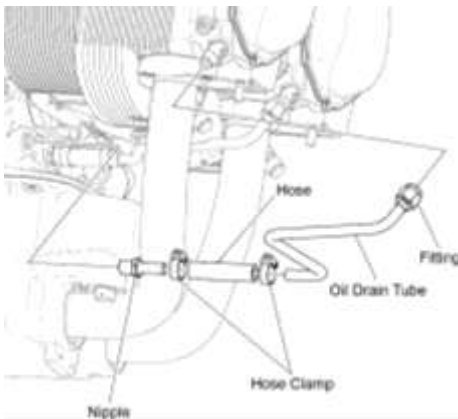

Figure 46
- (1) If a new nipple (Figure 46) is to be installed on the crankcase, apply Loctite[®] 564 to the threads of the nipple. Torque the nipple to 85 in.-lb. (9.6 Nm).
- (2) Connect a new hose to the nipple in the crankcase.